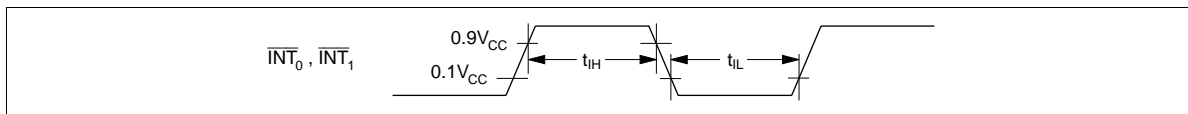

Figure 51 Interrupt Timing
4. See figure 51. The unit t_{cyc} applies when the MCU is in standby mode or active mode.